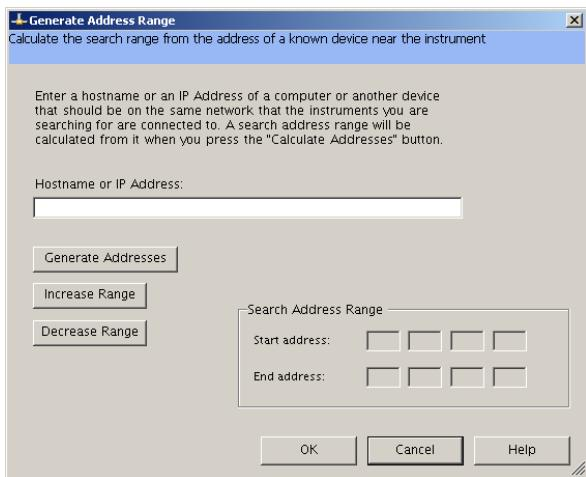

Figure 37 Generate Address Range Dialog
- a. Alternately, select the **Generate Address Range** button. This opens the following dialog (Figure 37).